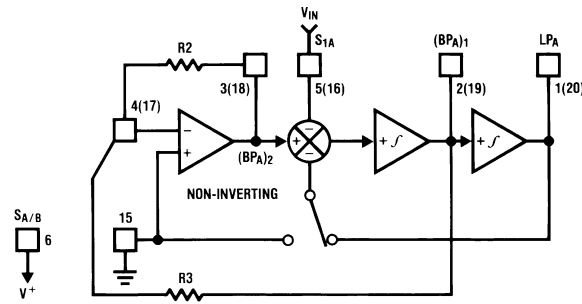

Figure 24. MODE 1a
**HON**: the gain (in V/V) of the notch output as f → 0 Hz and as f → fCLK/2, when the notch filter has equal gain above and below the center frequency (Figure 20). When the low-frequency gain differs from the high-frequency gain, as in modes 2 and 3a (Figure 27 and Figure 24), the two quantities below are used in place of HON.
### MODE 1a: Non-Inverting BP, LP (See Figure 24)